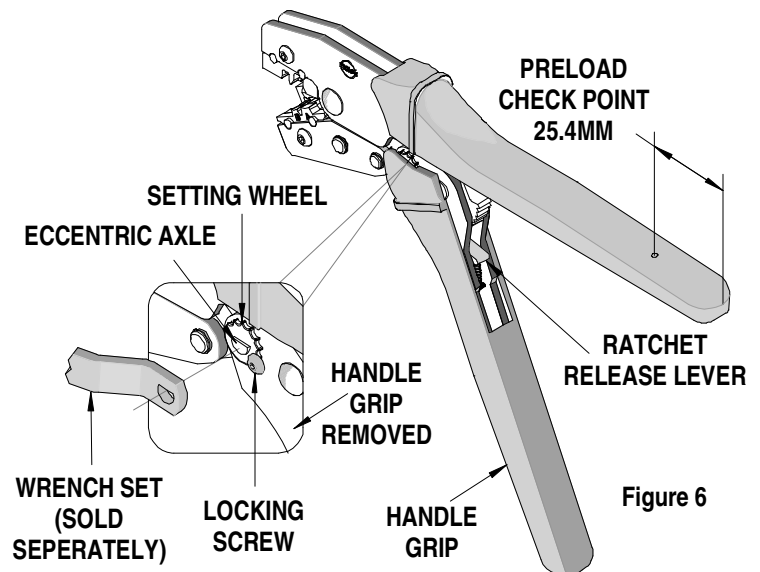

Figure 6
3. Make certain all pins; pivot points and bearing surfaces are protected with a thin coat of high quality machine oil. Do not oil excessively. The tool was engineered for durability but like any fine piece of equipment it needs cleaning and lubrication for a maximum service life of trouble free crimping. Light oil such as 30 weight automotive oil used at the oil points, every 5,000 crimps or 3 months, shown in Figure 6 will significantly enhance the tool life.
Should this tool ever become stuck or jammed in a partially closed position, **Do Not force the handles open or closed.** The tool will open easily by pressing the ratchet release lever. See Figure 6.
How to Adjust Tool Preload (See Figure 6)